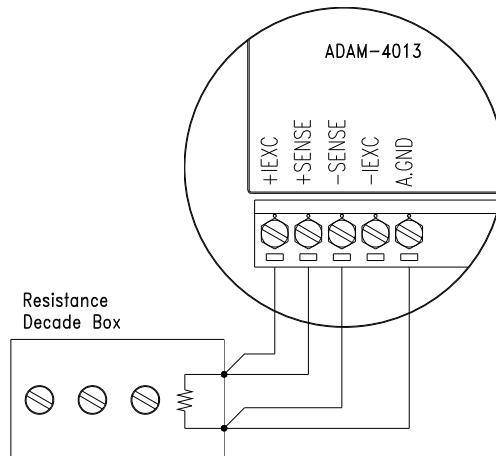

Figure 8-5 Applying calibration resistance
3. Apply the reference Span resistance to the screw terminals using a 4-wire connection. Please refer to Figure 8-5 for the correct wiring diagram and Table 8-2 for the right Span calibration resistance).
4. Apply the reference Offset resistance to the terminals of the module. (Please refer to Figure 8-5 for the correct wiring diagram and Table 8-2 for the right Offset calibration resistance.)